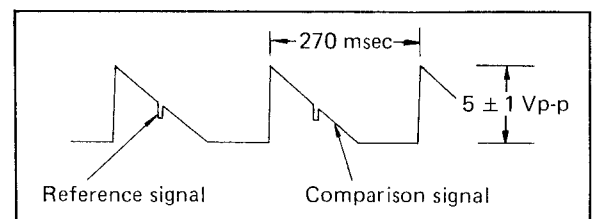

Fig. 6-1 Capstan sampling
3. Check the position of the reference signal on the waveform as shown in Fig. 6-1.